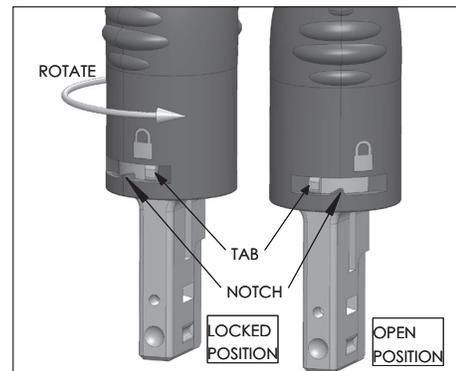

Figure 2: Removing the Magazine Cover
- 9.3.3 TheraStrand® consists of a variable number of seeds and spacers contained in bioabsorbable suture and custom loaded into 18-gauge brachytherapy needles. All TheraStrand® configurations begin and end with a 2.75 mm spacer (Figure 2). The maximum length of configured components is 6.5 cm.
13.3.4.2 To open the vertical seed magazine (VSM), rotate the cover counterclockwise past the notch until the tab is in the open position (Refer to Figure 2). Remove the cover using gentle upward pressure.